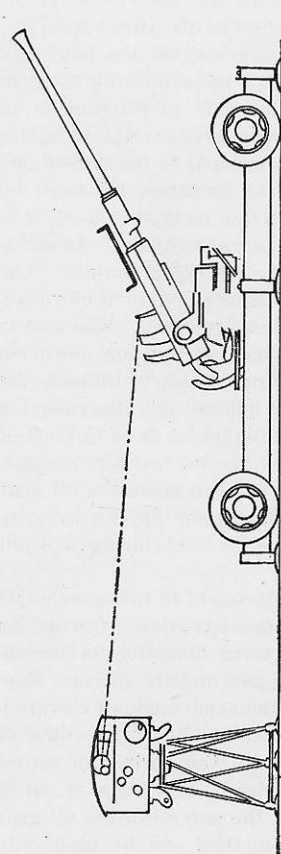

FIGURE 48.—Azimuth telescope aligned on pintle center of gun. (Line of sight should just clear rear guide; side frames are not involved.)
d. *The axis of the bore of the gun is made to point in the same direction in azimuth as the line of sight of the azimuth telescope by sighting along the center line of gun barrel.* This method requires an orienting point which is located along the line of sight of the azimuth telescope when the telescope is pointed at the pintle center of the gun. Orientation in azimuth is accomplished in the following manner: The center of the front guide of the autoloader is located and a mark is placed thereat upon the upper rear edge. With power off, the gun and director are pointed approximately in the same direction. The gun is then elevated so that the mark, when seen through the azimuth telescope, will appear just above the rear guide of the autoloader (fig. 48). With the gun elevated to this position, the mark on the front guide will be almost directly above the azimuth pintle center of the gun. When the gun and director have been posi-